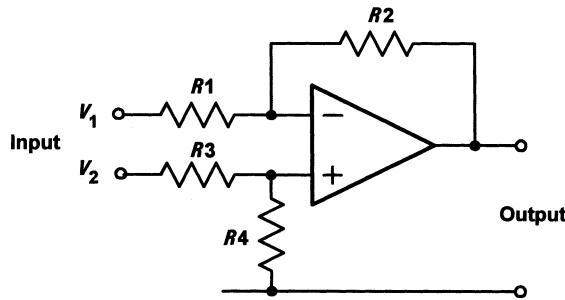

Figure 8.19
- 8.4 An operational amplifier is connected in differential mode in the circuit shown in Fig. 8.19. If $R_2 = R_4 = 20 \text{ k}\Omega$ and $R_1 = R_3 = 1 \text{ k}\Omega$, determine the output voltage when the following values of input voltages (measured with respect to common) are applied: